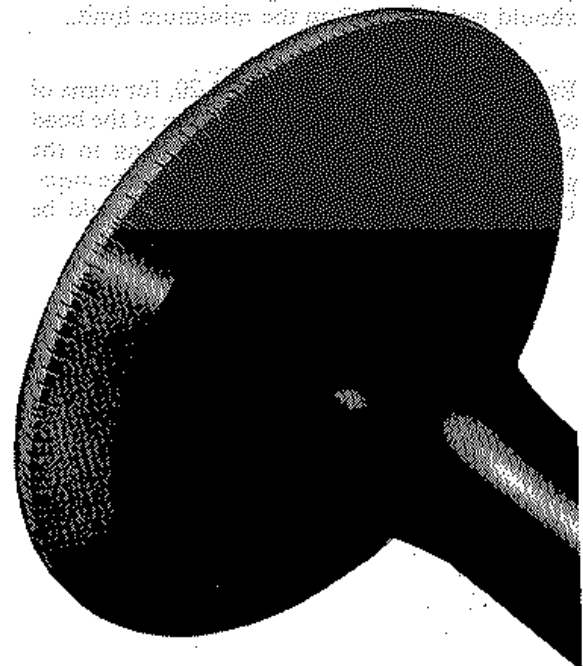

Fig.2-19-Face And Rim Defects
2. Any cracks found on the outside diameter of rim section of the valve, Fig. 2-19, are cause for rejection.
The face area, Fig. 2-19, is the critical area of the valve. Grinding cracks, channeling, and thermal cracks are cause for valve rejection.